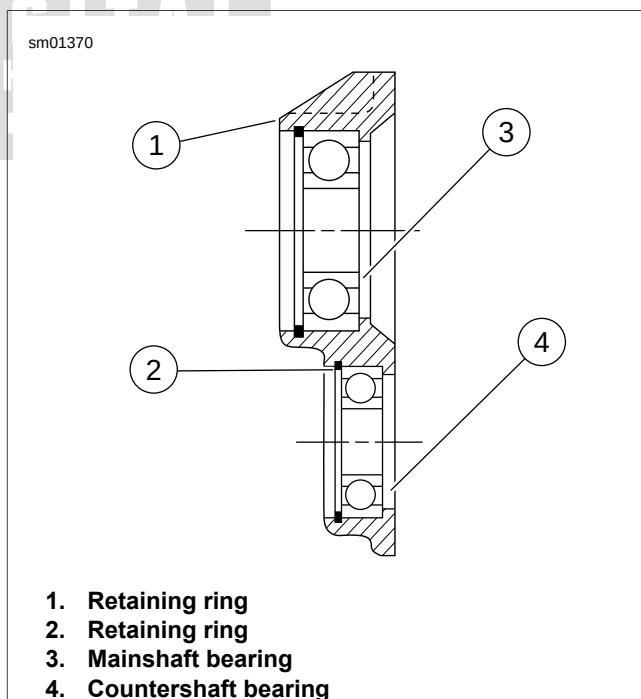

Figure 5-88. Ball Bearing Assembly
4. See Figure 5-88. If bearing replacement is required, remove retaining rings (1, 2) using SNAP-ON SNAP RING PLIERS (Part No. PR-36).